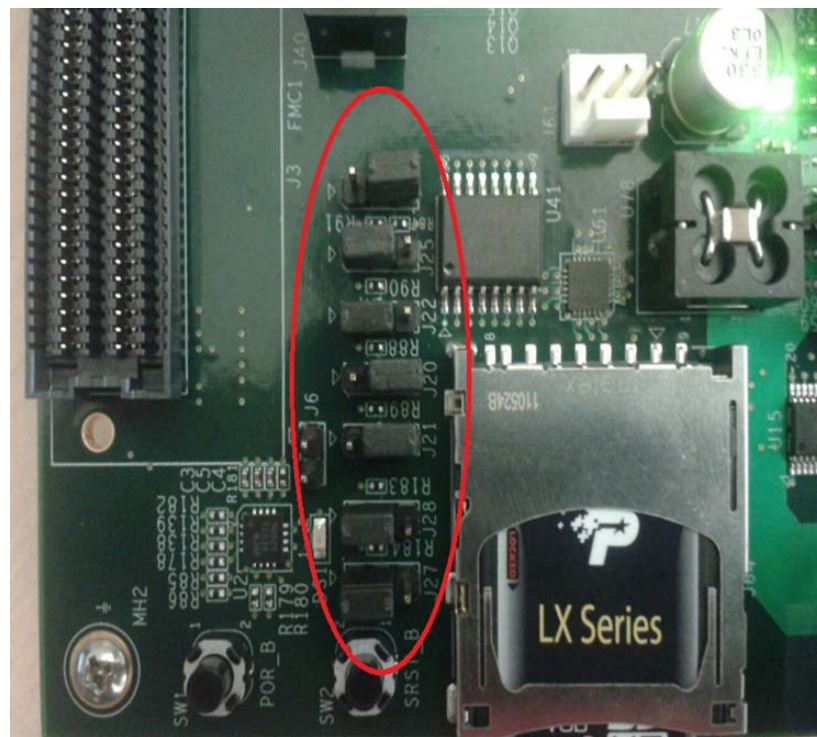

Figure 5-6: Jumper Settings for Booting Linux from SD Card
1. Change the settings for Jumpers J20, J21, J22, J25, J26, J27, and J28 as shown in Figure 5-6.